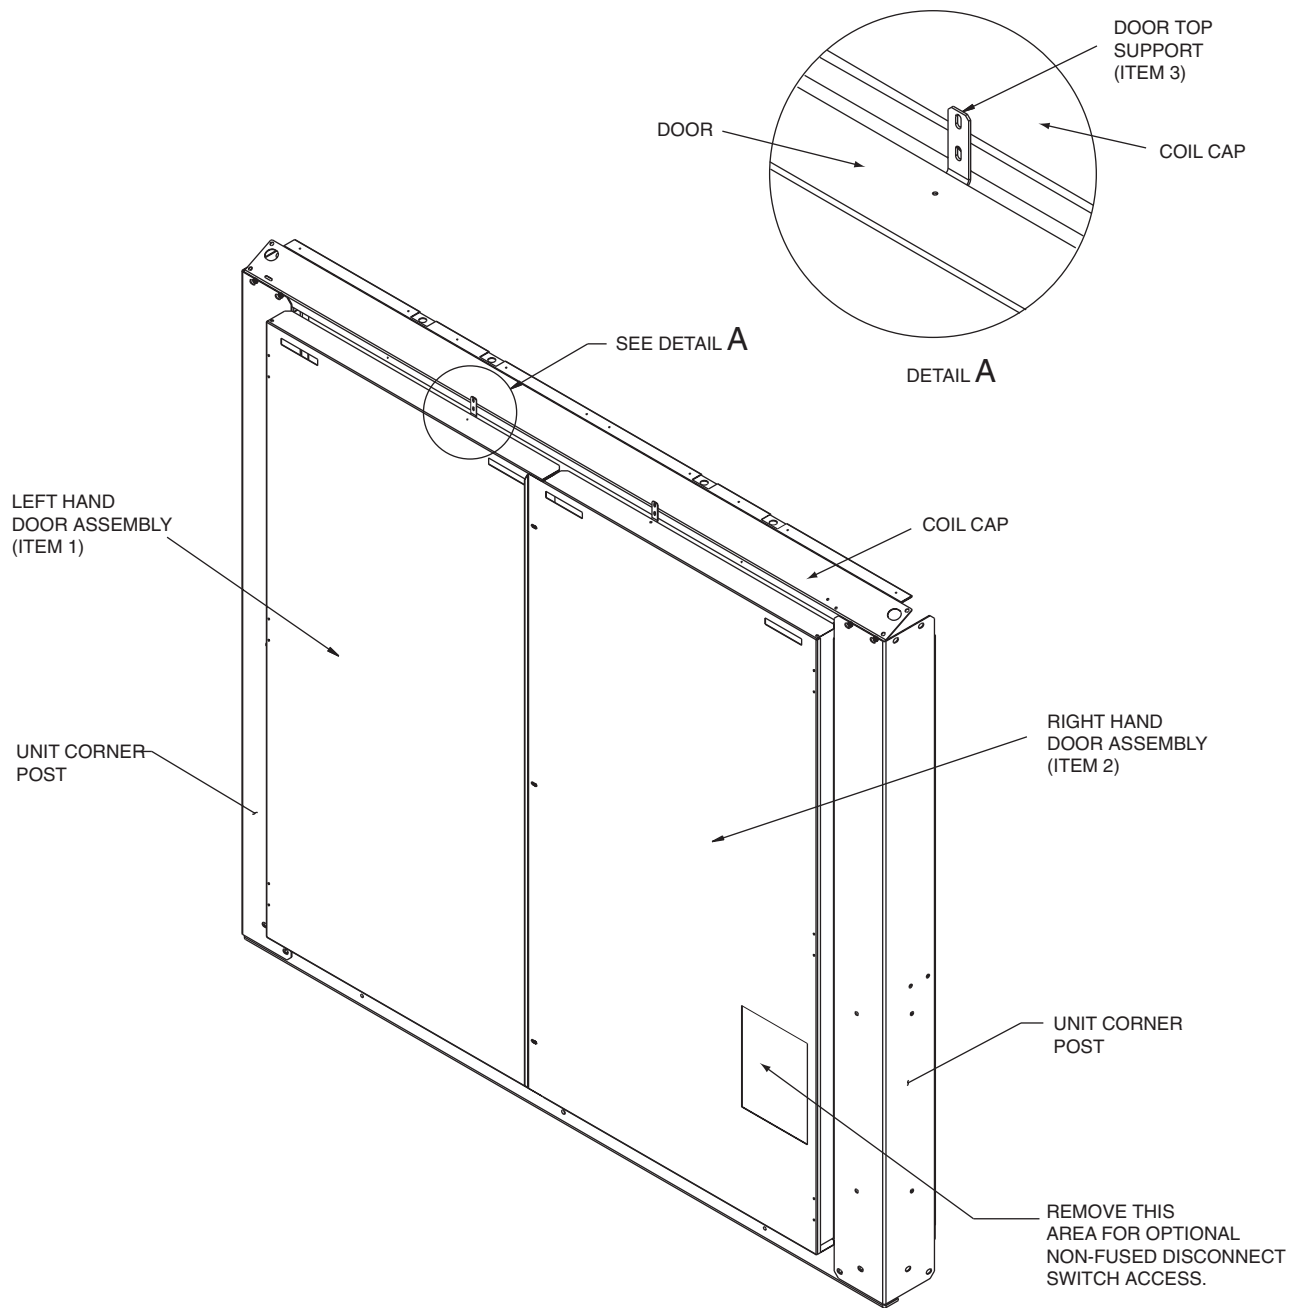

Fig. 1 — Accessory Package 00EFN500002000A Installation
2. Attach left hand door assembly (Item 1) to the left corner post inside flange using five No. 10 screws (Item 6). See Fig. 1 and 2.
3. Attach right hand door assembly (Item 2) to the right corner post inside flange using five No. 10 screws (Item 6). See Fig. 1 and 2.